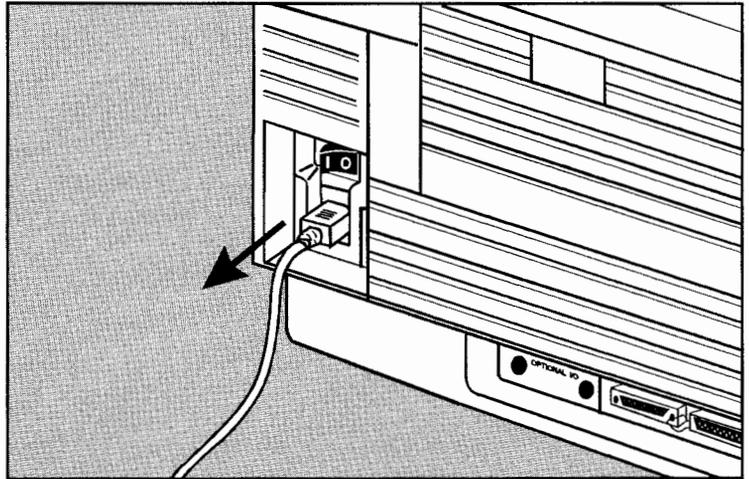

Figure 3-11. Unplugging the Printer
1. Turn the printer off and unplug the power cord from the printer. See Figure 3-11.